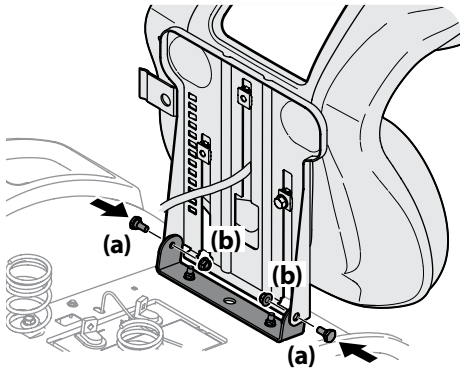

Figure 2-3
- Then with the previously removed shoulder bolts (a) and flange lock nuts (b) secure one side of the seat and seat bracket. While supporting the seat, remove the Phillips screwdriver and secure the other side of the seat. Be careful not to crimp or damage the wire harness while installing the seat. See Figure 2-3.